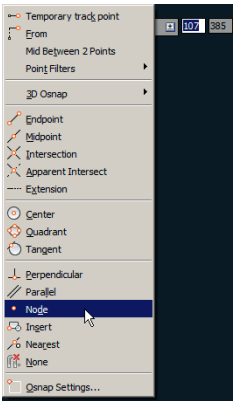
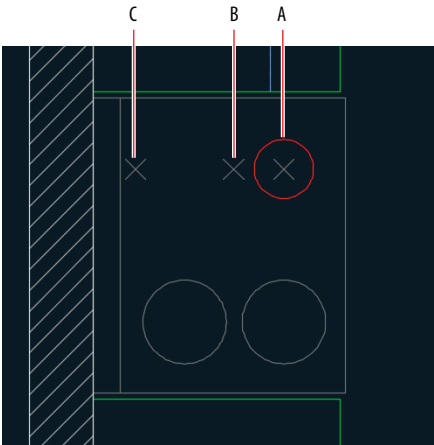

FIGURE 2.21 Object Snap context menu
FIGURE 2.22 Drawing a circle by locating its center using node snap
5. Select Node from the context menu (Figure 2.21), and then click point A (shown in Figure 2.22). The prompt in the Command window reads as follows:
9. Hold Shift, right-click again, and type **G**. Notice that this letter is underlined in the word Tangent in the context menu (refer to Figure 2.22). Click the circle on the bottom left.